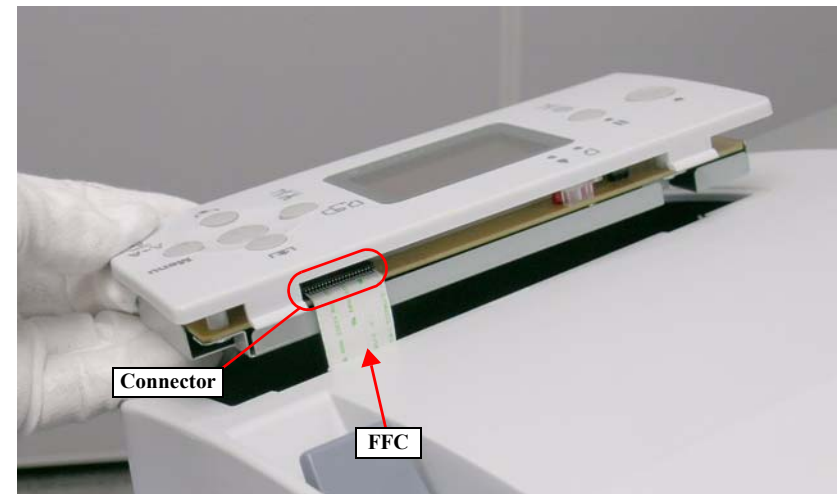

Figure 4-17. Removing the PANEL ASSY.
3. Disconnect the FFC from the PANEL ASSY. *See Figure 4-17.*